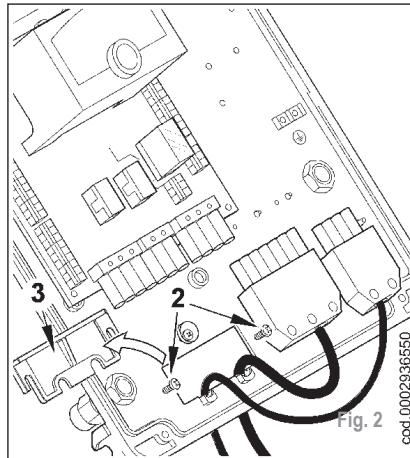

Fig. 2
- Loosen the screws (2) and, after removing the cable float plate (3), pass the two 7 and 4-pole plugs through the hole (see figure 2).